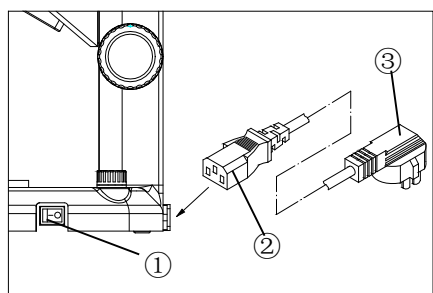

Fig.6
2.2.4. Connecting the power cord (Fig. 6)